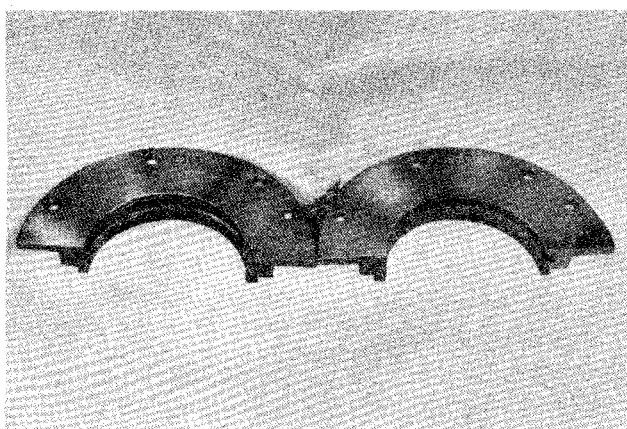
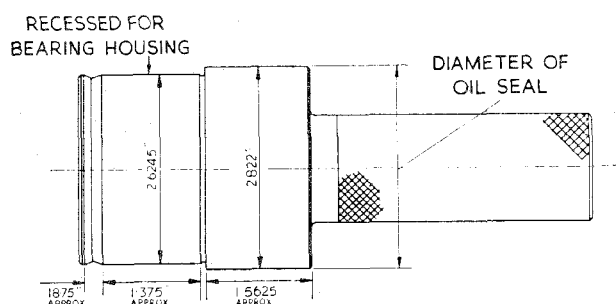

Fig. 32 Rear Oil Seal for Crankshaft. These are a mated pair and should not be separated.
Fig. 33 Crankshaft Mandrel for centring the Rear Oil Seal.
- (i) Check that the two halves of the rear oil seal bear the same number (Fig. 32). These are machined as a mated pair and failure to observe this instruction may result in oil leakage. Shellac the top half of the oil seal and attach it loosely to the cylinder block by its four bolts and lock washers. Shellac and similarly fit the lower half of the oil seal to the rear bearing cap. Ensuring that the crankshaft mandrel is clean (Fig. 33), lay it in the rear bearing housing (without the shell bearings).